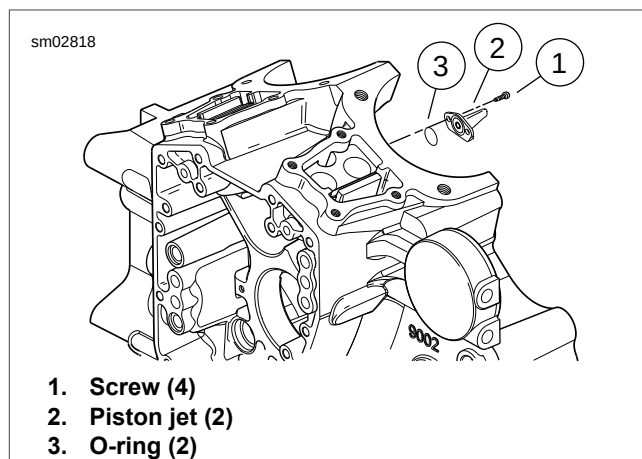

Figure 3-134. Piston Jets
1. See Figure 3-134. Remove two screws (1) to free piston jet (2) from crankcase.
2. Remove O-ring (3) from groove in mounting flange of jet. Discard O-ring.
1. See Figure 3-134. Apply a very thin film of clean H-D 20W50 engine oil to **new** O-ring (3) for piston jet. Install **new** O-ring in groove of jet mounting flange.
2. With jet pointed upward, start two screws (1) to secure piston jet (2) to crankcase. Tighten to 25-35 **in-lbs** (2.8-3.9 Nm).